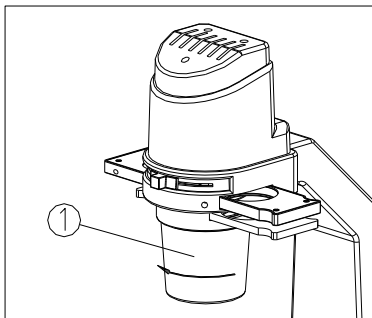

Fig. 22
Rotate lower part ① of the condenser in clockwise (looking down) and remove it to get larger operation space. It could get the height of 150mm. (See Fig.22)